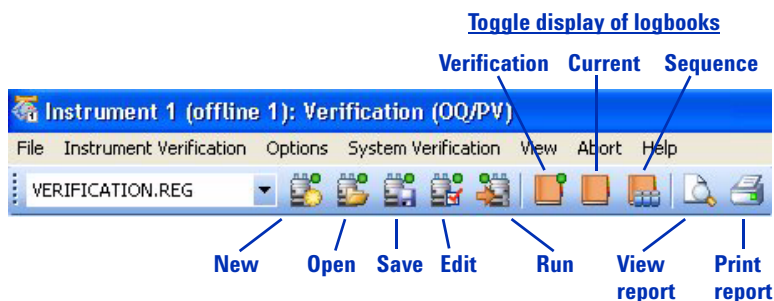
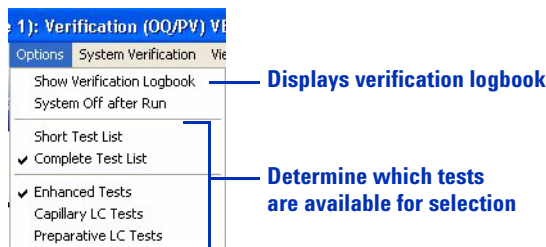

Figure 55 Tools to work with instrument verification
Figure 57 These options control the types of tests that you can select for instrument verification.
- Use the Verification Toolbar, shown in Figure 55.
The Options menu, shown in Figure 57, determines the specific set of tests that are available at any given time.
You can open the verification logbook from either the Verification Toolbar or the Options menu, as shown in Figure 55 and Figure 57.